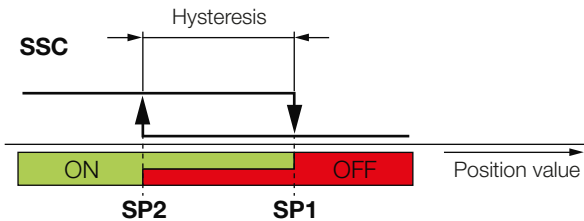

Fig. 6-3: Example for presence detection in two-point mode
- Two-point mode, (Fig. 6-3): Value: 3